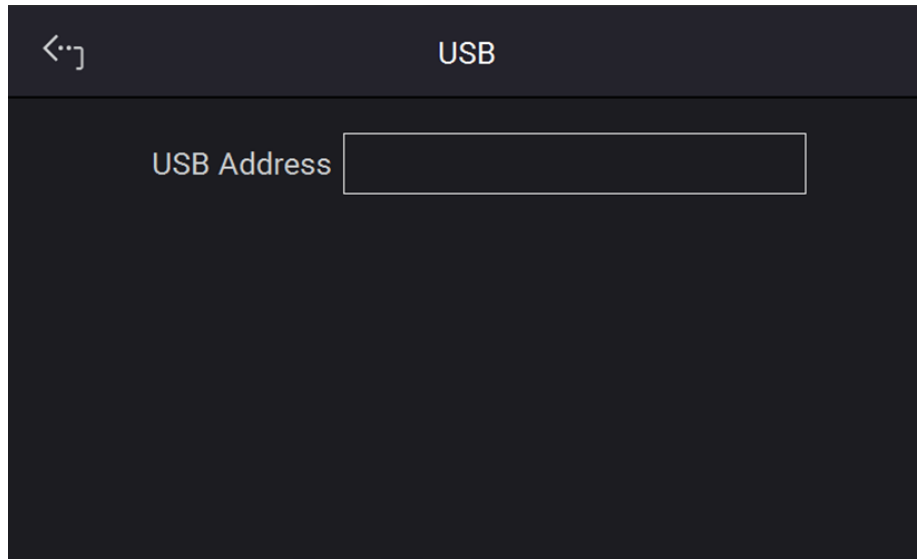

Figure 3-38
1. On the "Interface" page, select USB to enter into the USB Address screen as Figure 3-38.